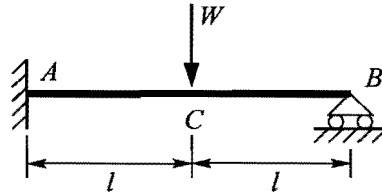

Figure 8
- † 10. A propped cantilever, ACB , of length $2l$, is built-in at A and simply-supported at B , as shown in Figure 8. A transverse force, W , is applied to the mid-point of span, C . Find the reactions at the supports and the end rotation at B .